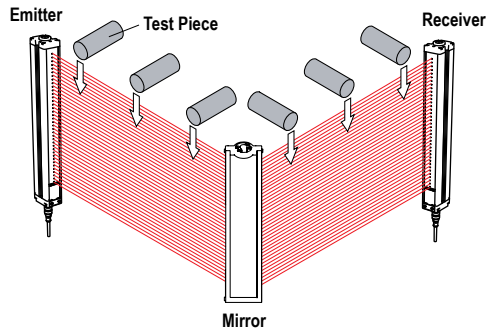

Figure 29. Trip Test with Corner Mirror
5. If mirrors are used in the application: Test the defined area on each leg of the sensing path (for example, emitter to mirror, between mirror and receiver, see Figure 29 on page 43).